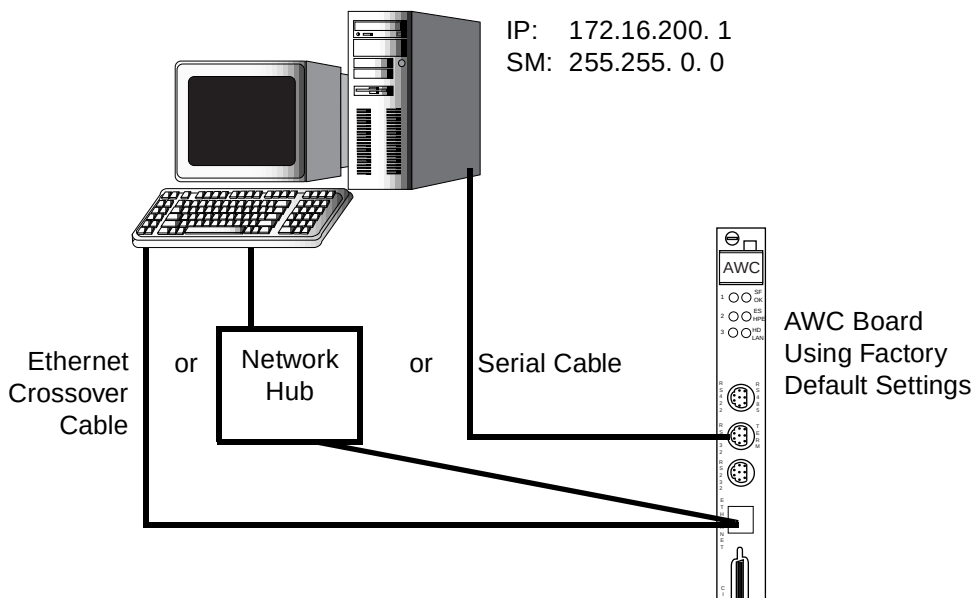

**Figure 6-4. One PC, One Controller**
As shown in Figure 6-4, there is one PC networked to one Adept controller. The AWC board can be connected to the PC using one of the three cabling options shown below.
To create the network shown in Figure 6-4, complete the following steps:
- b. Install a TCP/IP protocol on the PC using the IP address and subnet mask shown in Figure 6-4. See "Setting Up the TCP/IP Interface (Ethernet Connection)" on page 130 and the documentation for your PC for details.